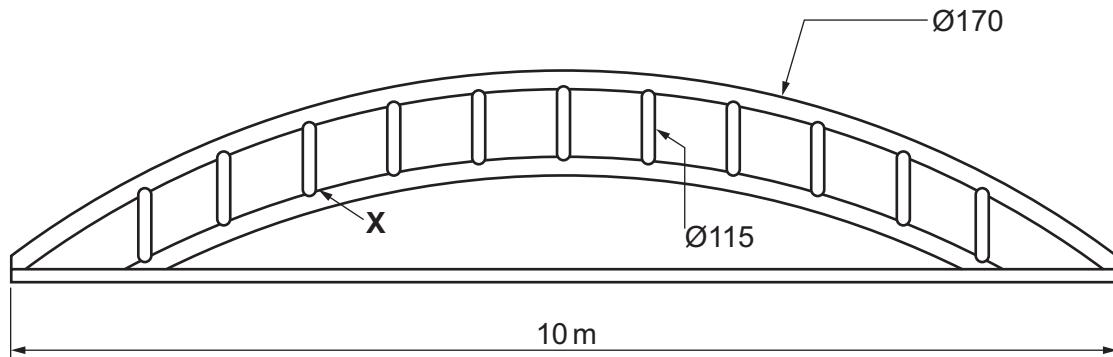

Fig. 10.3
- (e) Fig. 10.3 shows a bridge constructed from steel tubes.